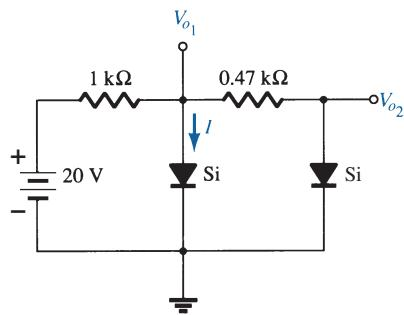

FIG. 162
12. Determine V_{o1} , V_{o2} , and I for the network of Fig. 162.